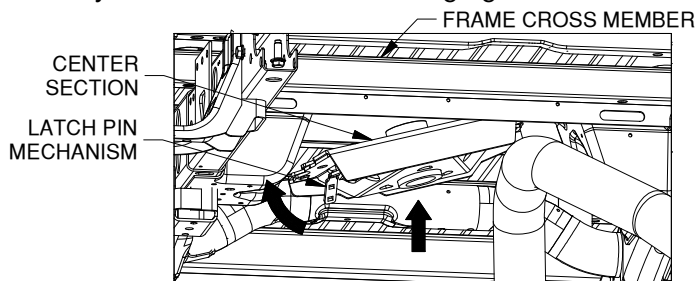

Figure B5: Looking from rear towards cab.
3. **Install the center section.** With the latch pin mechanism on the driver side, raise the center section into place as shown, see Figure B5. In order to clear structures under the truck bed, the center will have to be lifted into place on an angle over the exhaust, then positioned directly under the frame cross member so that the raised portion of the center can be pushed straight up through the hole in the frame cross member, and through the hole in the plastic spacer block. Having assistance in the bed to guide the top of the center section is recommended. Line the 6 holes in the center section up with the frame holes and the holes in the threaded blocks. Thread a 5/8 flange head bolt into each hole. Next, run the bolts in until they are about 1/16" from being tight.